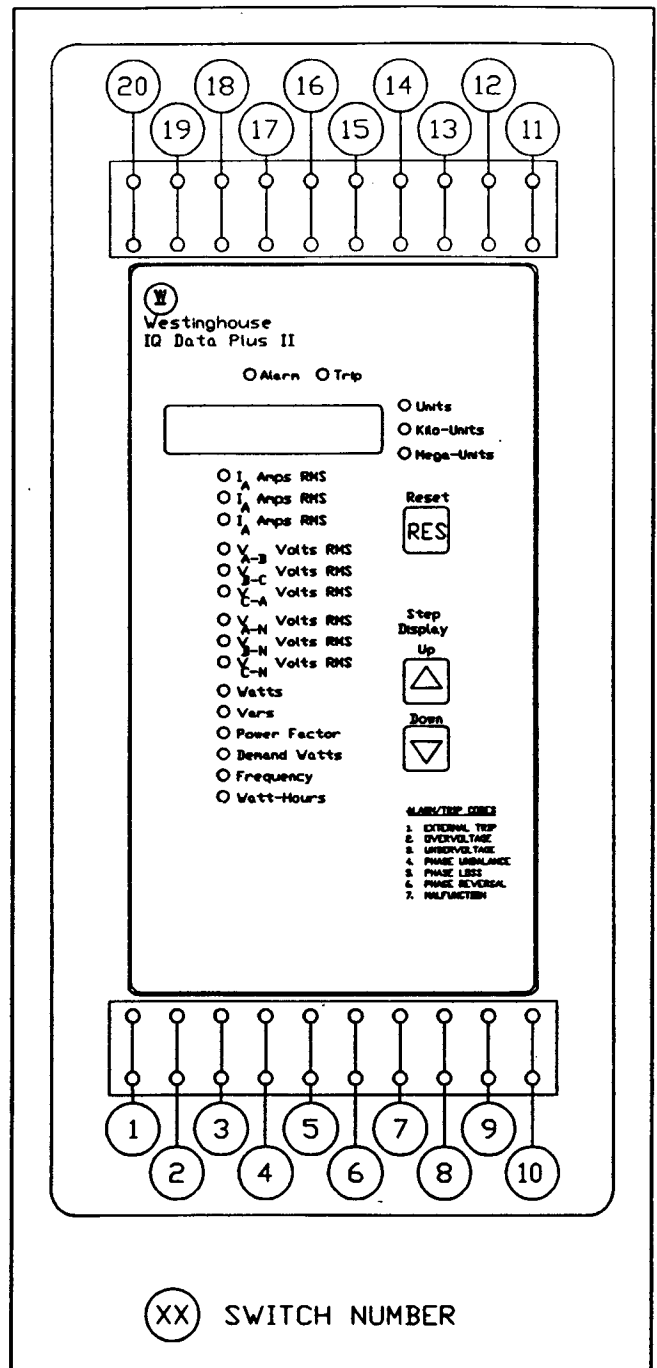

Fig. 5 Drawout Case Knife Switch Numbering
Step 3 – Refer to Figure 5. First, open knife switches #1 through 10; then open the remaining knife switches on the drawout case.
Step 2 – If installing a replacement unit and the associated equipment is running, close knife switches #11 through 20 (refer to Figure 5). Once these switches have been closed, switches #1 through 10 may be closed.